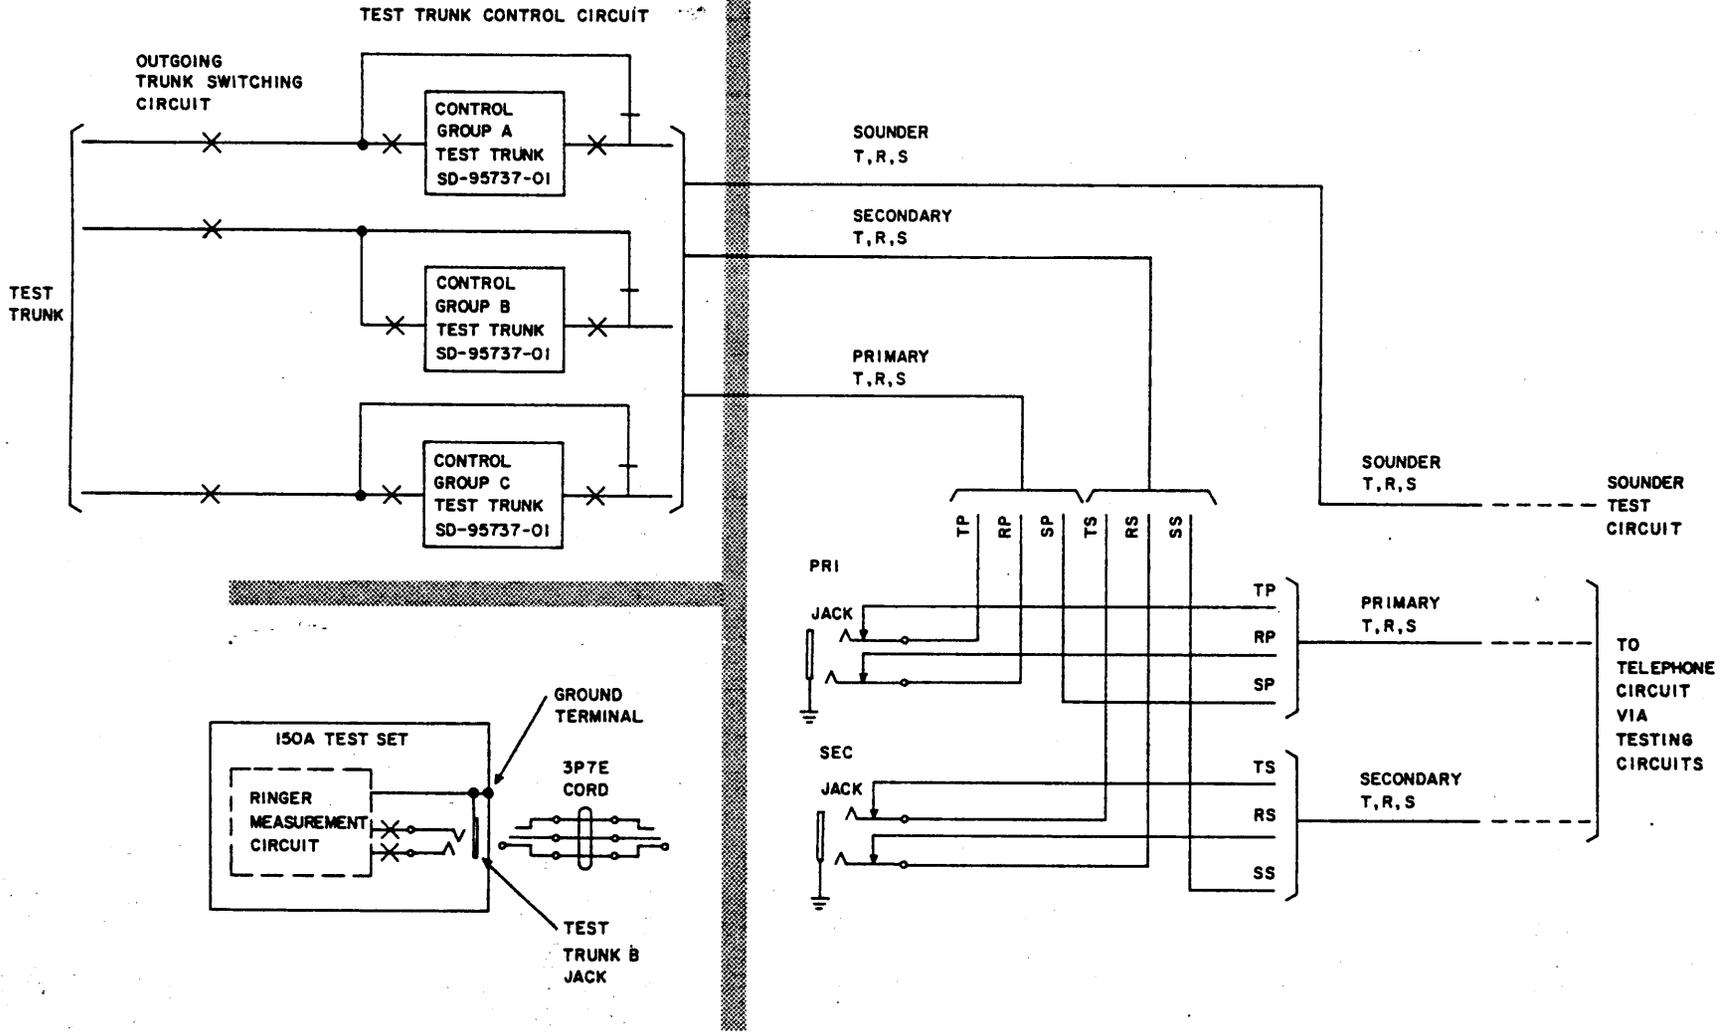

Fig. 4—Circuit Arrangement for Interfacing 150A Ringer Counter Test Set With 16-Local Test Desk
- **TEST TRUNK B** jack is used to connect the RCTS to the secondary jack located under the left writing shelf of the No. 16 and the modified 14-type LTDs. The 3P7E cord is used to connect the No. 16 and the modified 14-type LTDs to the TEST TRUNK B jack on the RCTS. The access jacks on the No. 16 and modified 14-type LTDs are arranged to disconnect the test keys when a cord is plugged into the jack. This feature prevents using the same test circuit on the LTD to test for faults on the line and for making the ringer counter test. The RCTS connection should be made through the secondary test circuit and the LTD testing will be made with the primary test circuit (Fig. 4). TEST TRUNK B jack is also used to connect the RCTS to a customer line at the MDF. The 3W14B cord may be used to connect the RCTS to the conductor terminations on the vertical side of the MDF. A ground may be supplied to the RCTS through TEST TRUNK B jack, if required (see 2.07). The white conductors of the 3W14B cord may be connected to the MDF ground to supply a ground to the test set. The red conductor connects to the tip side of the line, and the black conductor connects to the ring side of the line.